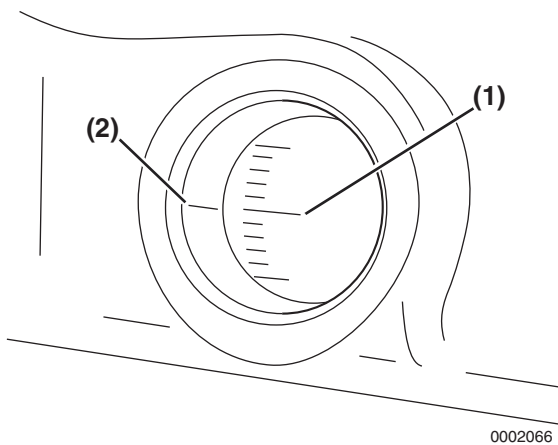

Figure 7-46
2. Rotate the flywheel until the target timing mark (**Figure 7-46, (1)**) and the timing reference mark (**Figure 7-46, (2)**) on the flywheel housing or back plate are aligned.